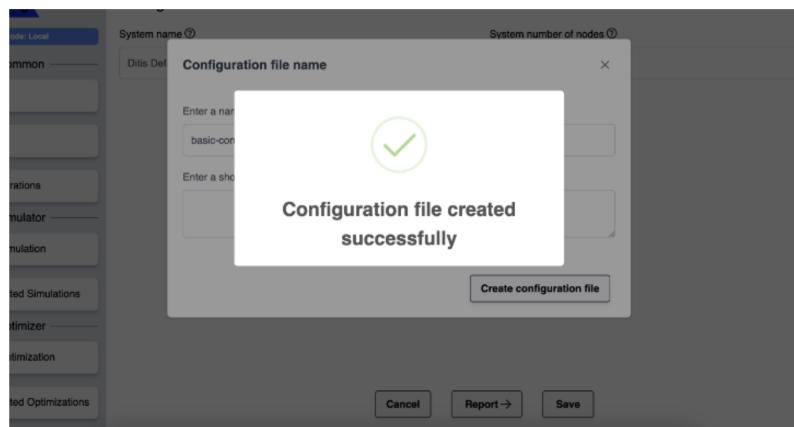

Figure 41: Successfully saving file
8. If the file gets created successfully, you will be prompted a confirmation message as seen in Figure 41.